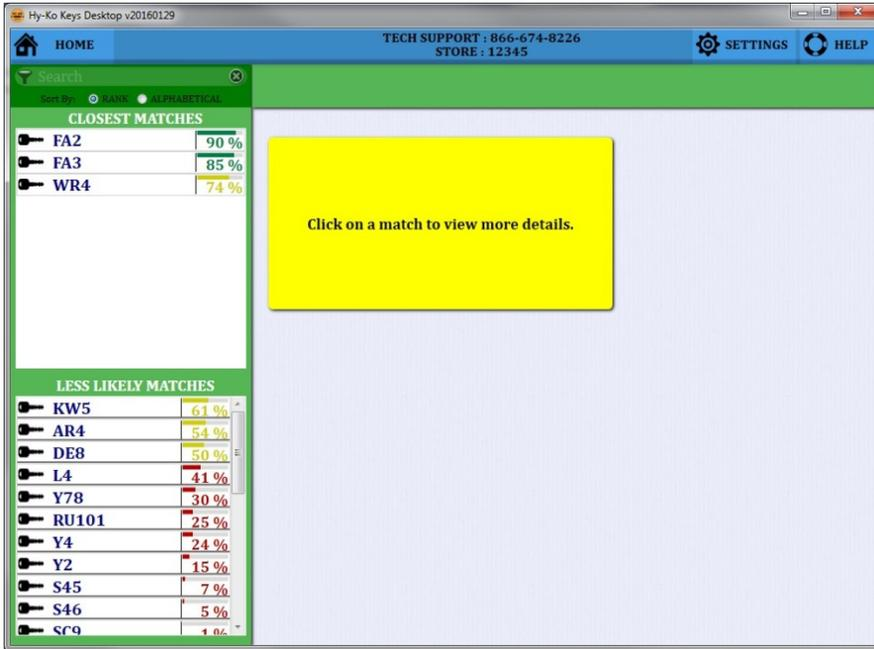

fig. 34
- When the Vision Box is finished scanning the key, you will be taken to the results screen (see fig. 34).